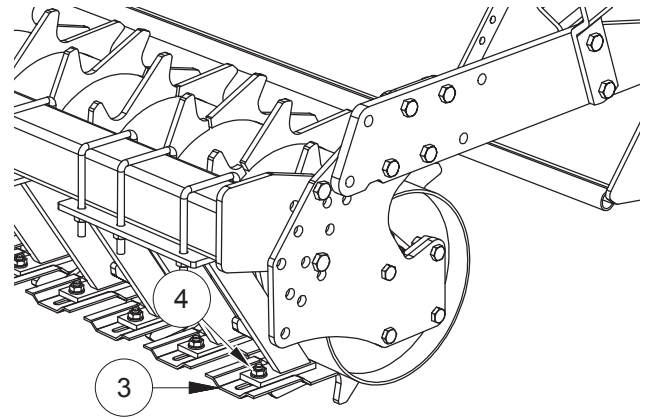

FIG. 30
- Loosen nut (4, Fig. 30).
- Bring the scraper(3) close to the roller.
- Tighten nut (4).